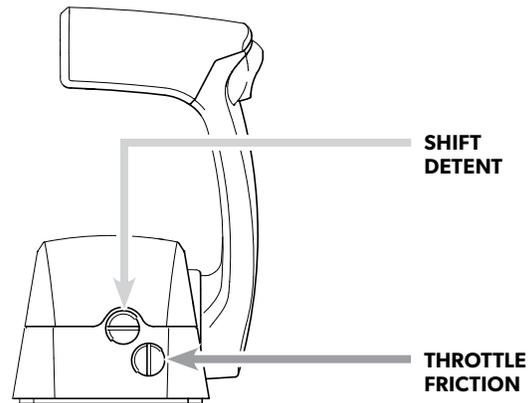

Figure 3-7.
- The friction drag on the lever is adjusted with the throttle friction adjuster screw (see figure 3-4 or figure 3-7). Turn the screw clockwise to increase the friction on the lever, counter-clockwise to reduce the friction.